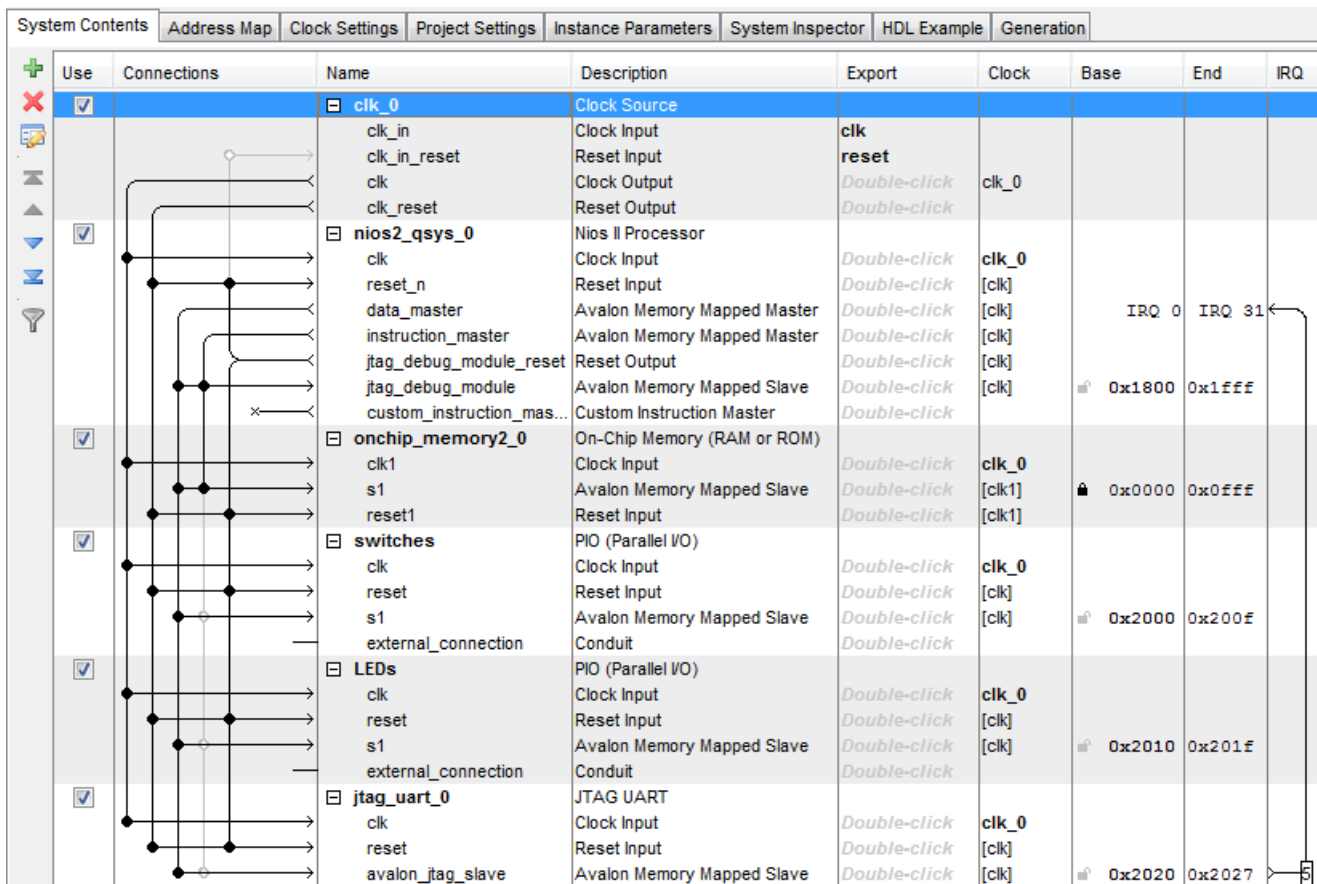
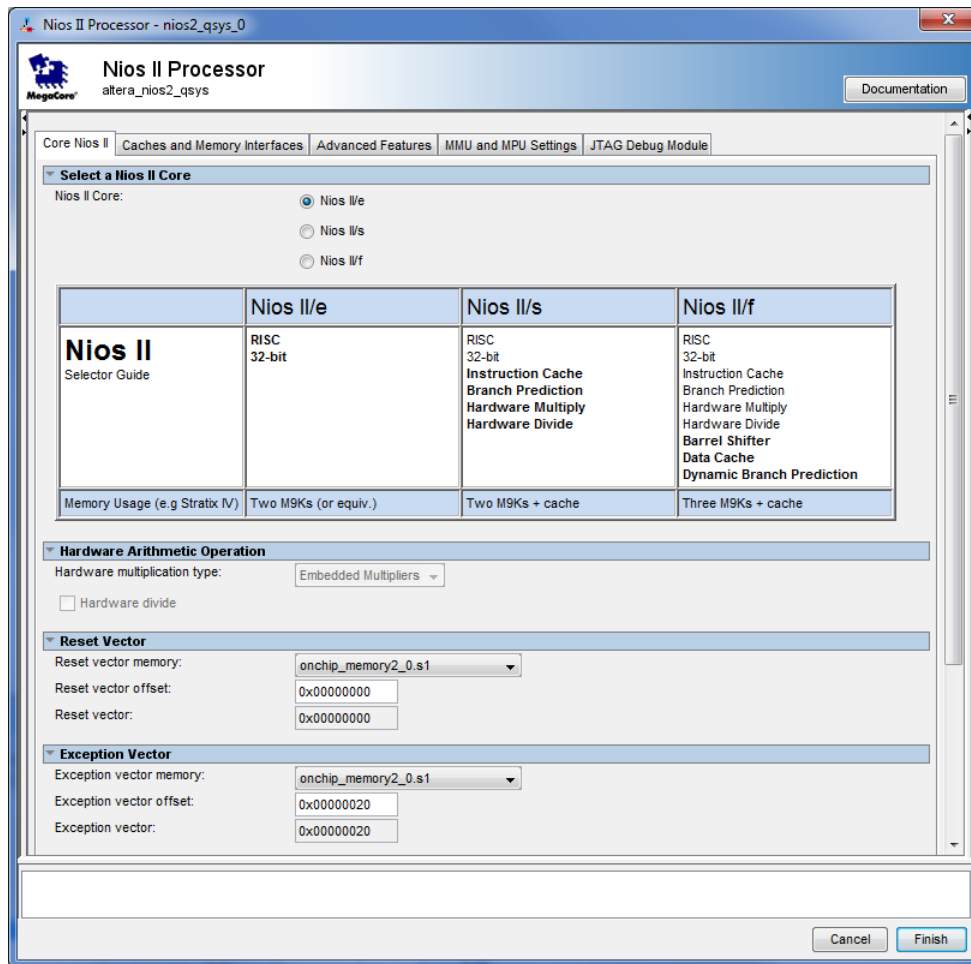

Figure 17. The system with assigned addresses.
Figure 18. Define the reset and exception vectors.
- Right-click on the *nios2_processor* component in the window displayed in Figure 17, and then select Edit to reach the window in Figure 18
- Select *onchip_memory* to be the memory device for both reset and exception vectors, as shown in Figure 18